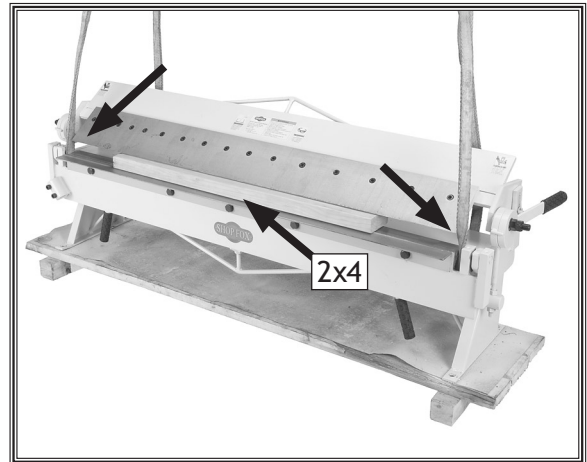

Figure 3. Pan and box brake supported evenly by two lifting straps.
- Make sure the body of the brake is bearing the load (Figure 3).
- Make sure the bending leaf stays in the down position by clamping a 2x4 piece of lumber between the clamping leaf and clamping block as in Figure 3.